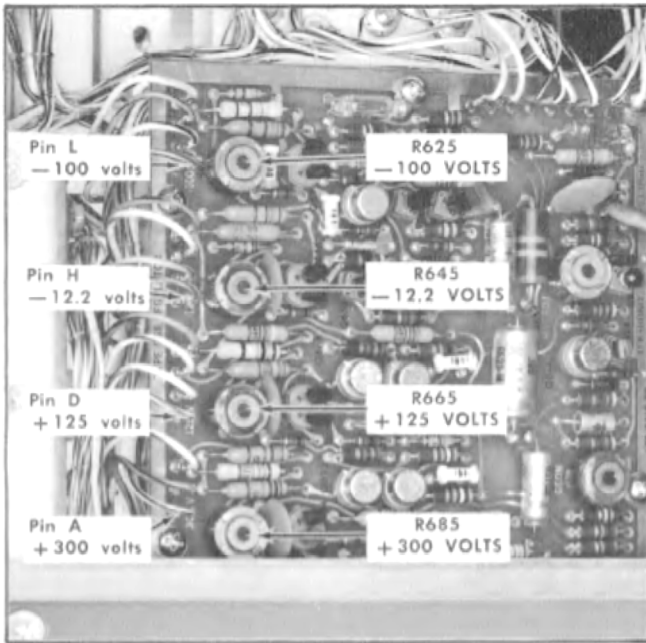

Fig. 6-4. Location of Low Voltage test points and adjustments.
- a. Connect the test probe to the —100-volt test point (pin connector 'L', low-voltage regulator board; see Fig. 6-4).
- g. Adjust—R625, -100-volt adjustment (see Fig. 6-4) so the test oscilloscope trace is at the center horizontal graticule line.
- a. Connect the test probe to the +125-volt test point (pin connector 'D', see Fig. 6-4).
- e. Adjust—R665, +125-volt adjustment (see Fig. 6-4) so the test oscilloscope trace is at the center horizontal graticule line.
- a. Connect the test probe to the +300-volt test point (pin connector 'A', see Fig. 6-4).
- e. Adjust—R865, +300-volt adjustment (see Fig. 6-4) so the test oscilloscope trace is at the center horizontal graticule line.
- a. Connect the test probe to the -12.2-volt test point (pin connector 'H', see Fig. 6-4).
- i. Adjust—R645, -12.2 volts adjustment (see Fig. 6-4) so the test oscilloscope trace is at the center horizontal graticule line.
Voltage Test Point (Fig. 6-4)	Maximum Ripple (60 Hz or 120 Hz)